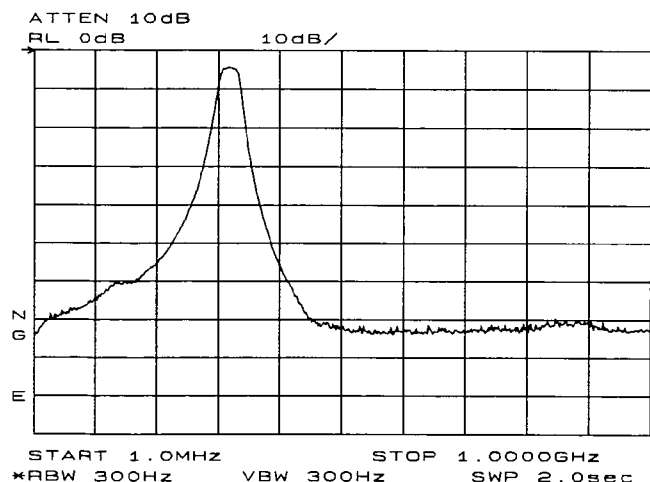

Figure 3-23. Normalized Trace
6. Normalization eliminates the frequency response error in the test-setup. When normalization is on, trace math is being performed on the active trace ($A - B + \text{NRP} \rightarrow A$), where A is the active trace, B is the stored thru calibration trace, and NRP is the normalized reference position. Note that the units of the reference level, dB, reflect this relative measurement (see Figure 3-23).